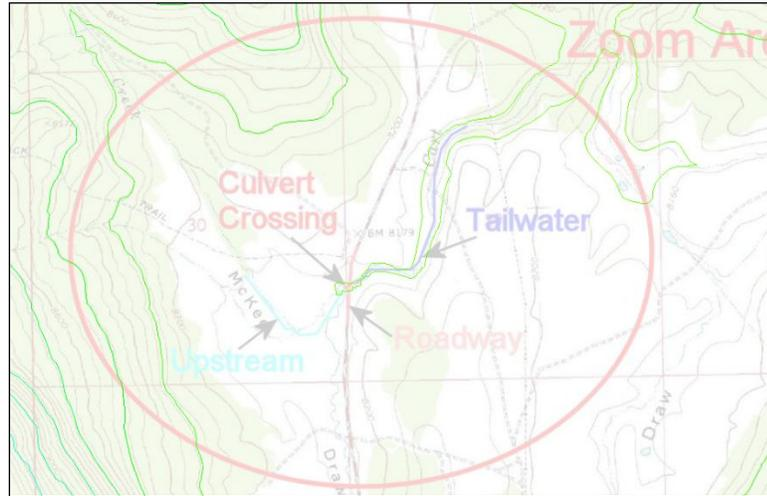

Figure 1 Zoom area
The project should appear similar to Figure 1.
If desired, feel free to change the transparency of the “CartCreekTopo.tstopo.web.jpg” to make the arcs created in the next section easier to see. The transparency is set to 80% in Figure 1.
3. In the Graphics Window, create an arc along the highlighted “Roadway” area (Figure 1) from south to north (upstream to downstream). Double-click to end the arc.
5. In the Graphics Window, create an arc for the culvert crossing as indicated in Figure 1 from left to right (upstream to downstream).